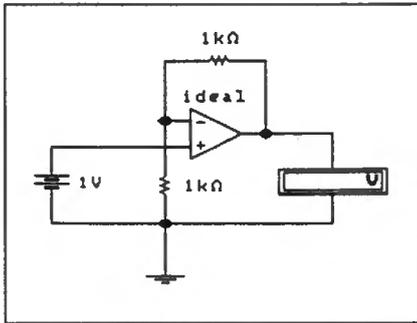

Fig. 5.11 Non-inverting amplifier circuit (Assignment 5.1).
- 1. Connect the non-inverting amplifier circuit shown in Fig. 5.11. Check that the
- Finally, return to the circuit of Fig. 5.11 with $V_{IN} = 1V$. Choose a value for R_F that will produce an output voltage of 10V (i.e., a voltage gain of exactly 10). Check that the circuit works and note down the value of R_F used.